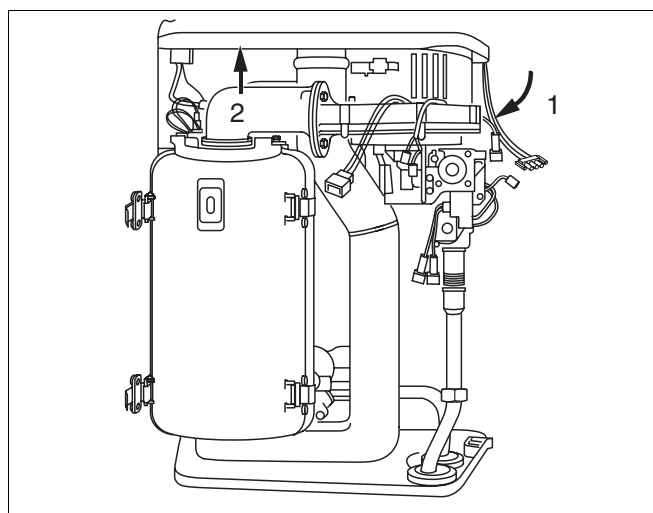

Fig. 41 Remove the air combination unit
- Swivel forward the air combination unit (fig. 41, item 1).
- Pull the air combination unit up and out of bayonet connector (fig. 41, item 2) and remove via front of unit.
- Swivel the air combination unit forward (fig. 41, item 1).